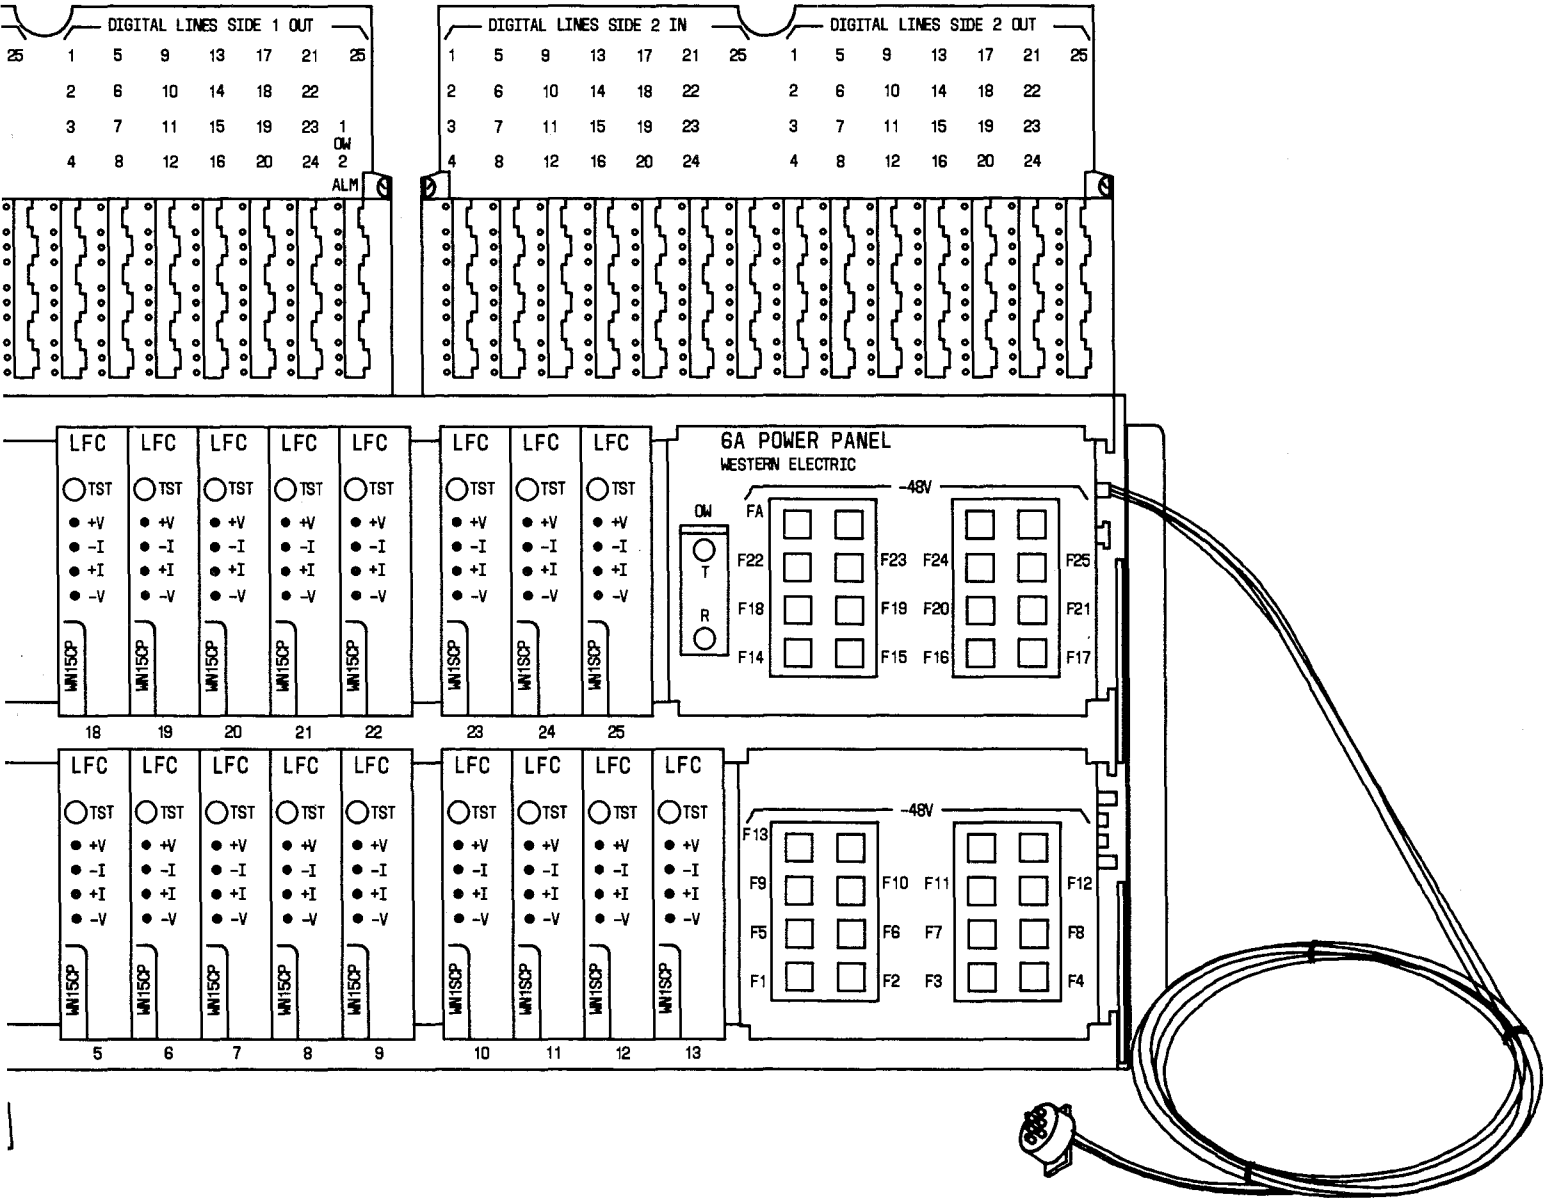

Fig. 1—6A Power Panel
2.02 The 6A power panel (Fig. 1) is made up of two standard SLC-96 equipment shelves and includes a pair of protection blocks at the top. The total height of the 6A power panel is approximately 13 inches.